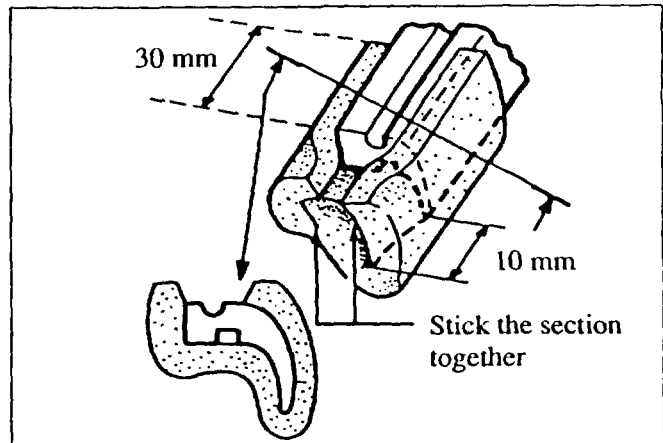

Figure 9: New glass guide rail pad
- A) Install the new glass guide rail pad so that the top of the pad is 30 mm from the bottom of the guide rail. **Figure 9.**
B) The remaining length of the pad (10 mm) should be pinched so that the sides stick together. **Figure 9.**